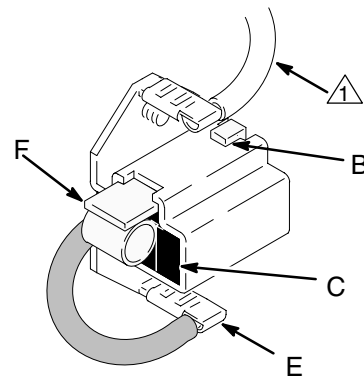

Fig. 6 03881
1. Fig. 6. Install new brush (F) with lead into brush holder (C).
3. Fig. 6. Install spring clip (A). Push down to set hook (B) into brush holder (C).